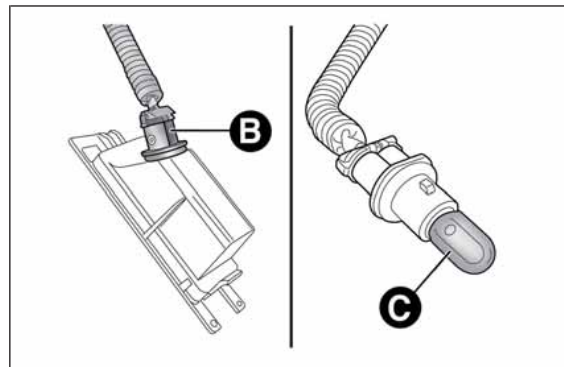

fig. 140
- turn the bulb holder B fig. 140 anticlockwise, extract the bulb C and replace it;